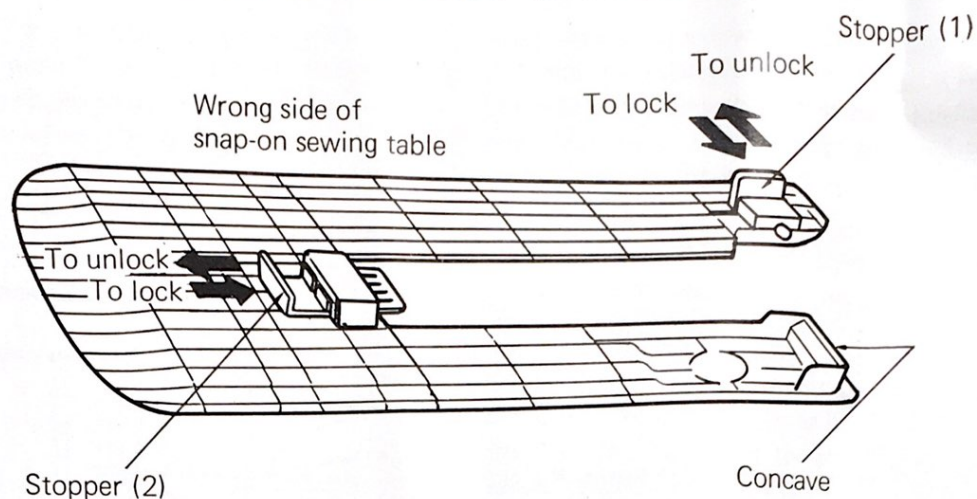

Fig. 3
Hold the snap-on sewing table on the slant as shown and set the concave to the convex of machine pulling the stopper (1). (Figs. 3 & 4)
Lower the snap-on sewing table down to horizontal position pulling the stopper (2) toward left. Set the stopper (2) to the stopper hole (2) and let your finger go off. (Figs. 3 & 5)